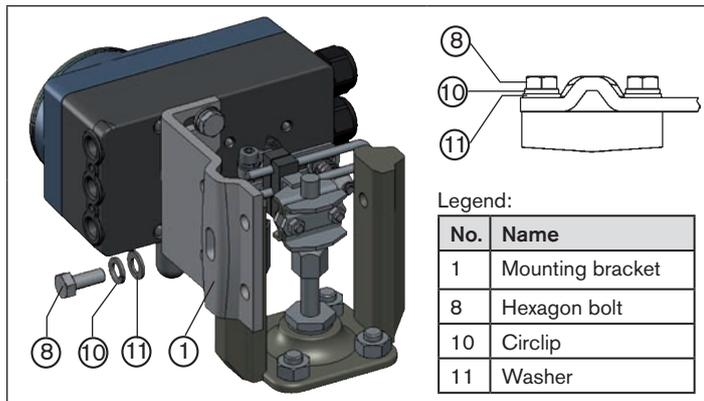

Fig. 9: Attach Type 8792/8793 with mounting bracket; for actuators with cast frame
→ Attach mounting bracket to the cast frame with one or more hexagon bolts (8), washers (11) and circlips (10) (see "Fig. 9").